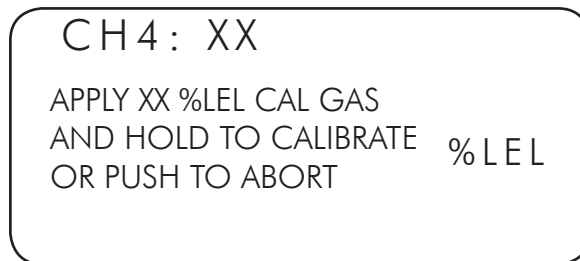

Figure 38
4. If either a successful offset calibration was performed or this step was entered with no offset applied, the prompt shown in Figure 38 will be displayed.